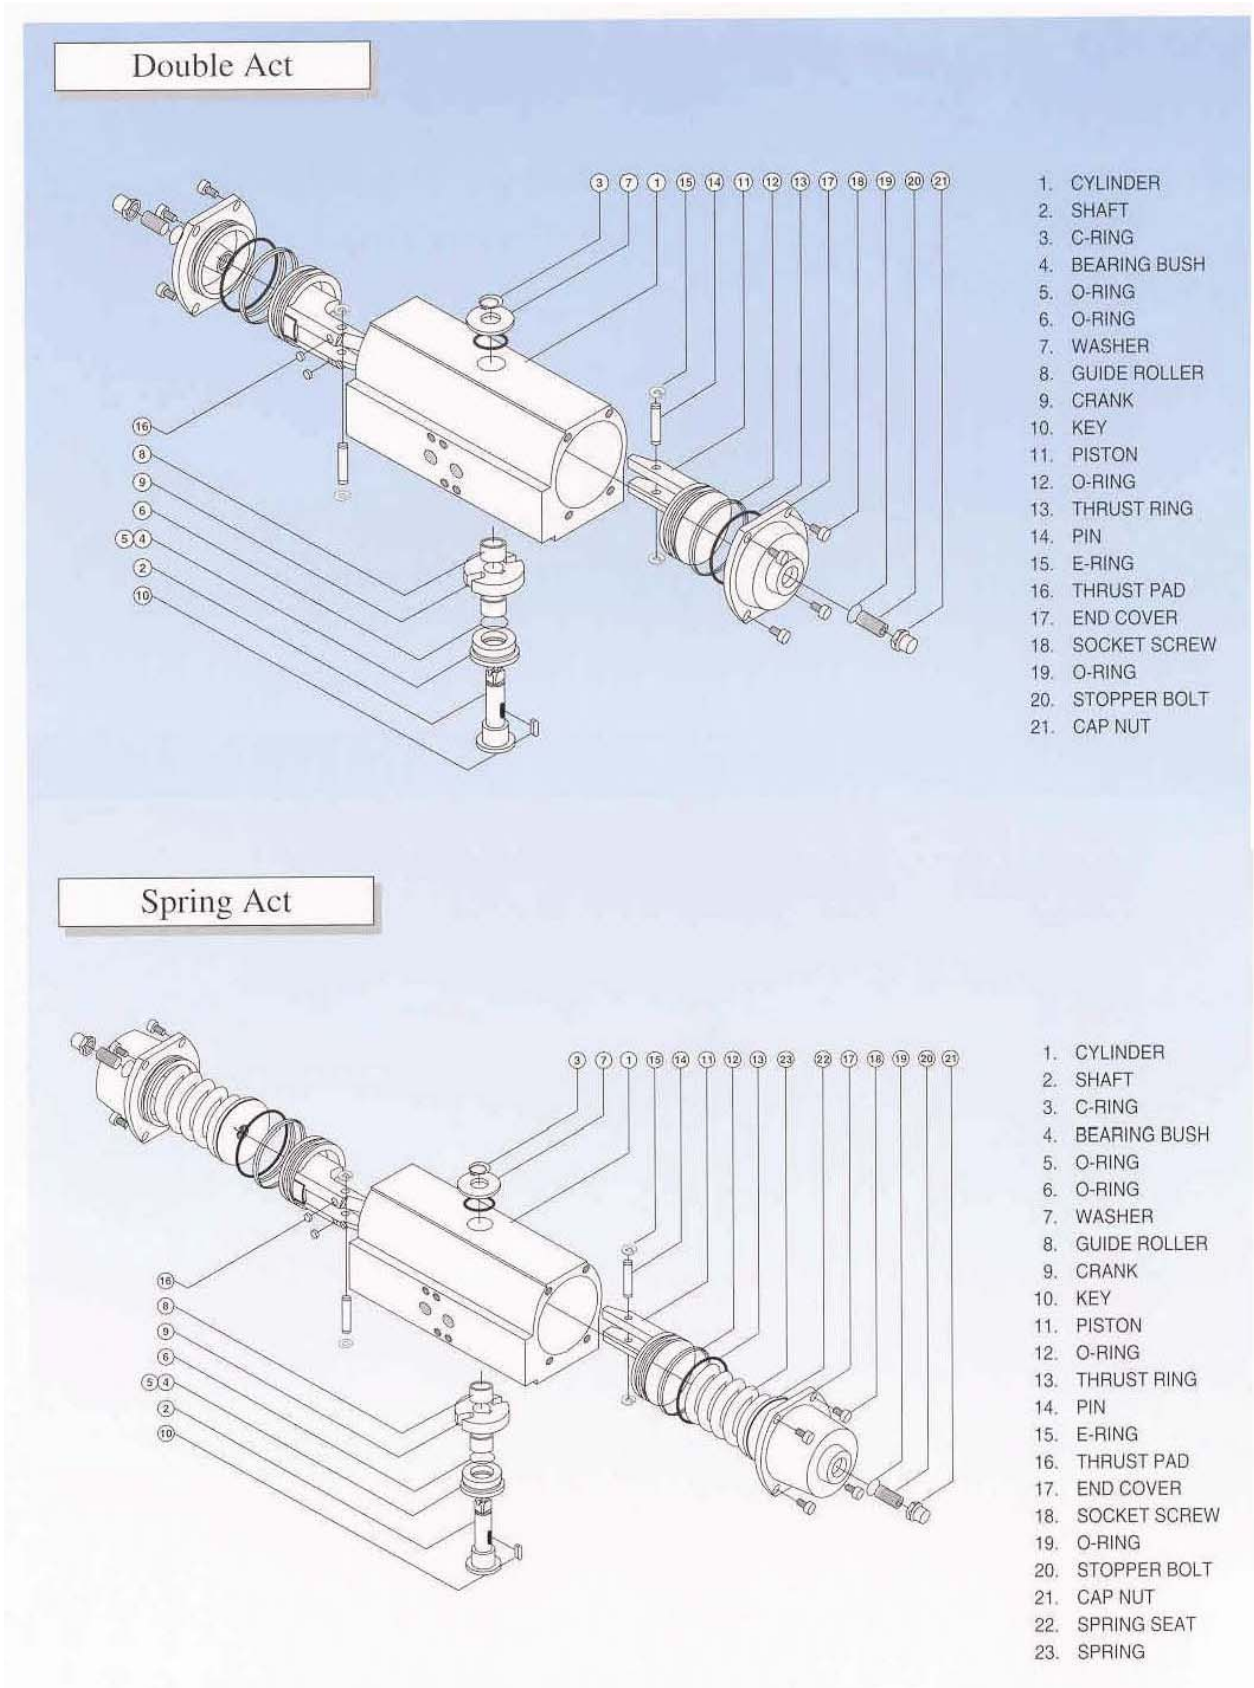

Fig 4.1 Actuator Assembly Diagram (Scotch yoke type)
4.2.1 Disassembly (See Fig 4.1)
- ① Remove actuator from the valve.
- ② Release the air pressure from inside the actuator and disconnect the air piping.
- ③ Replace 2 tension bolts and remove the others.
- ④ Slowly remove the remaining 2 bolts while keeping the actuator spring without load.
- ⑤ Remove the cylinder cover.
- ⑥ Remove the pipe, and then remove the piston from the spindle.
- ⑦ Remove the spindle from the arm while taking care not to damage the surface of the spindle, and then pull out the arm from the housing.
- ⑧ Check the O-ring and wearing, and replace them if necessary.
4.2.2 Assembly (See Fig 4.1)